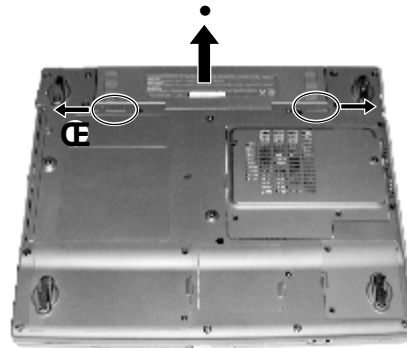

Figure 2-1 Remove the battery pack
2. Slide the left release lever to the “unlock” () position (), then sliding and holding the right release lever outwards while take the battery pack out of the compartment (). (Figure 2-1)